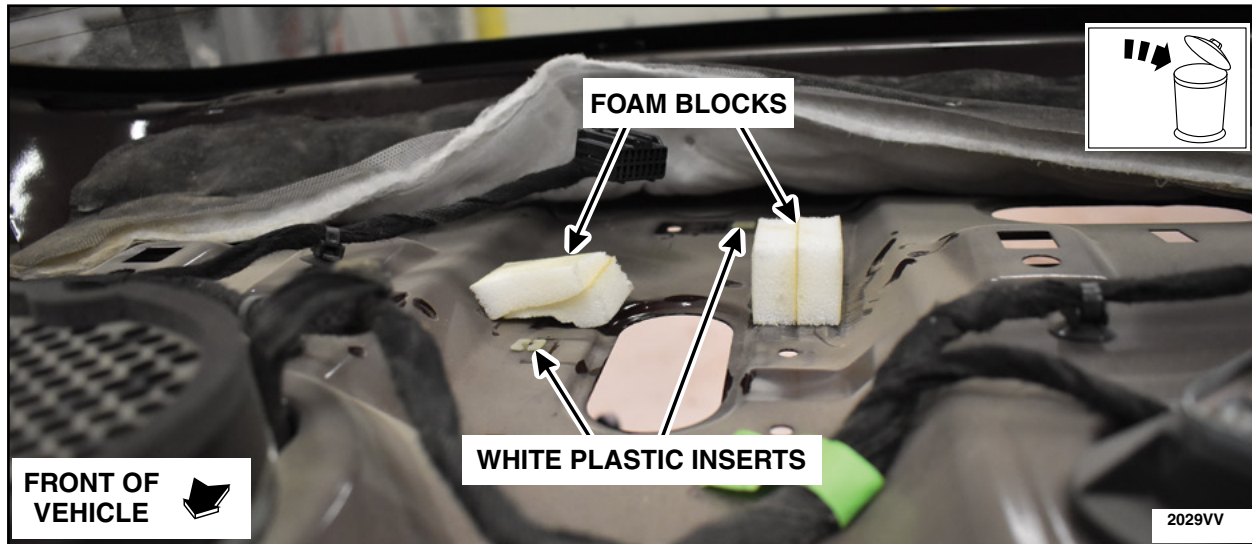

FIGURE 1
2. Remove and discard the two foam blocks and white plastic inserts. See Figure 1.